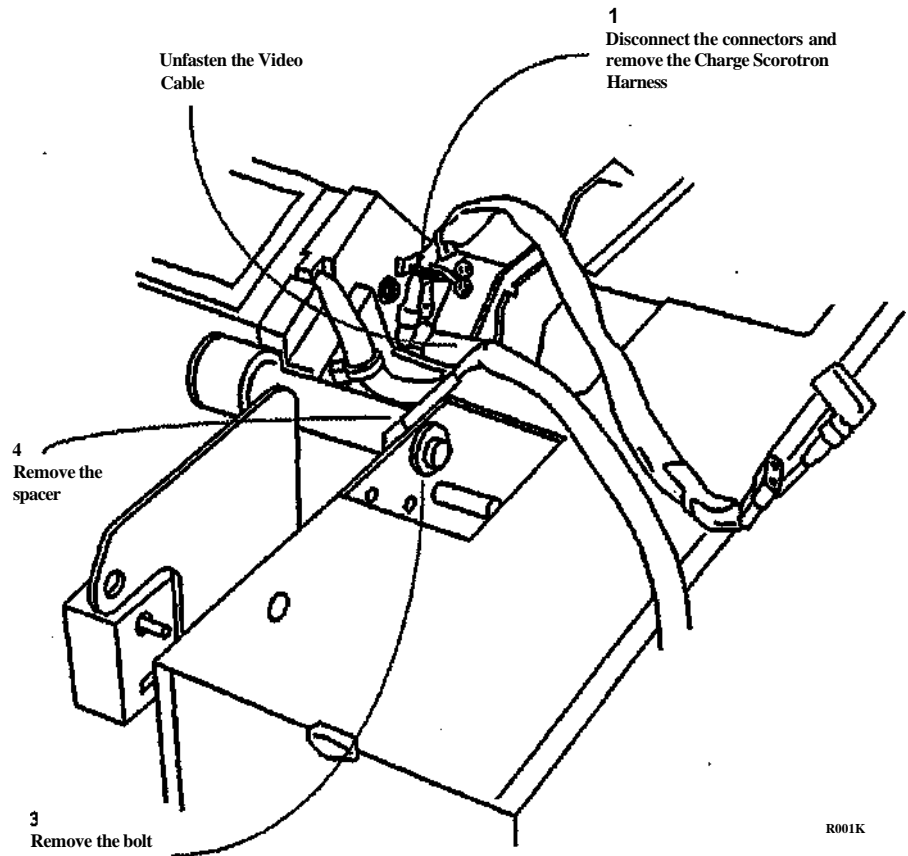

Figure 10. Preparing to Remove the Image Module Assembly (View looking at the Rear from the Right Side)
16. (Figure 10): Continue to pull the Video Cable through the hole after releasing it from the cable guides.